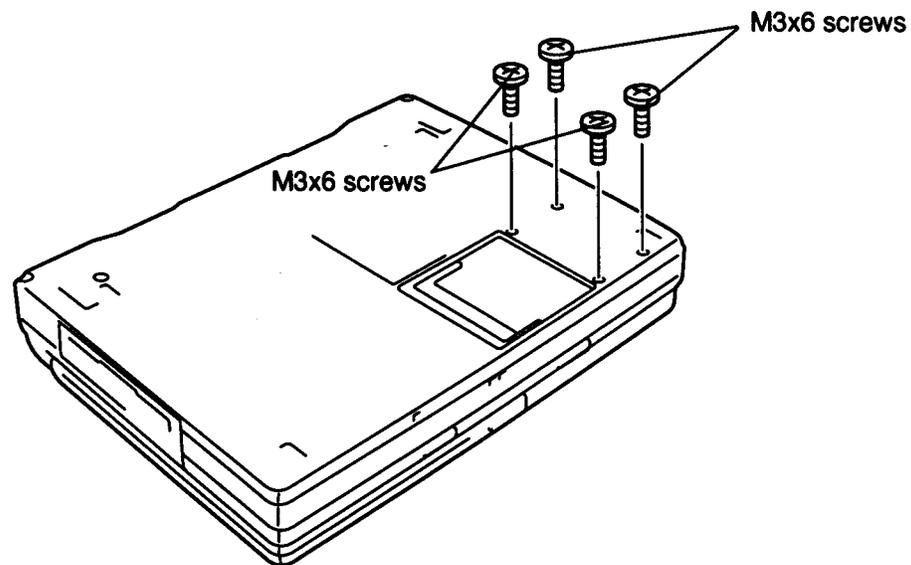

Figure 4-12 Removing four screws
To remove the T2150 series hard disk drive and sound board, follow the steps below and refer to figures 4-12 and 4-13.
3. Turn the computer over and remove **four pan-head M3x6 screws** on the bottom (figure 4-12).
To install the T2150 series hard disk drive, follow the steps below and refer to figures 4-12 through 4-14.
6. Turn the computer over and secure the **HDD** with the **four pan-head M3x6 screws** (figure 4-12).